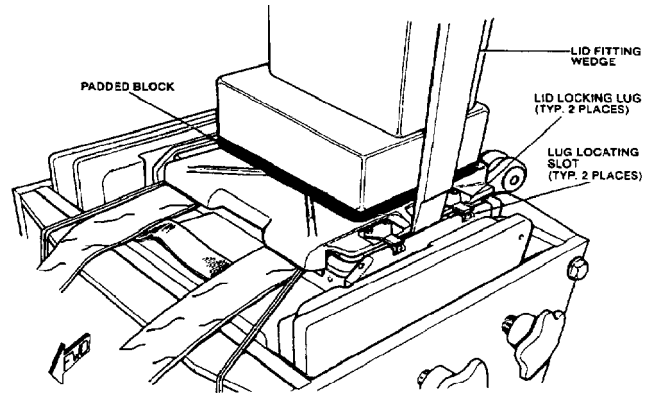

Figure 61. Closing Lid - Stage 2
e. Insert lid fitting wedge down RH side of lid, flat side inboard and make sure lugs are located so that they will engage in slots in container, if necessary tap lid to rear to locate. Pull nylon cords to make sure the protection cover panel is fully forward and remove cords (Figure 61). (QA)